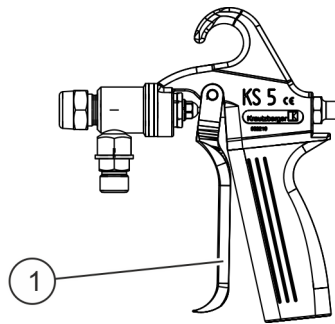

Fig. 4: Temporary shut-down
1. ➤ Disrupt the spraying process by releasing the pull lever (Fig. 4/1).
3. ➤ Release the residual energy by activating the pull lever (Fig. 4/1).